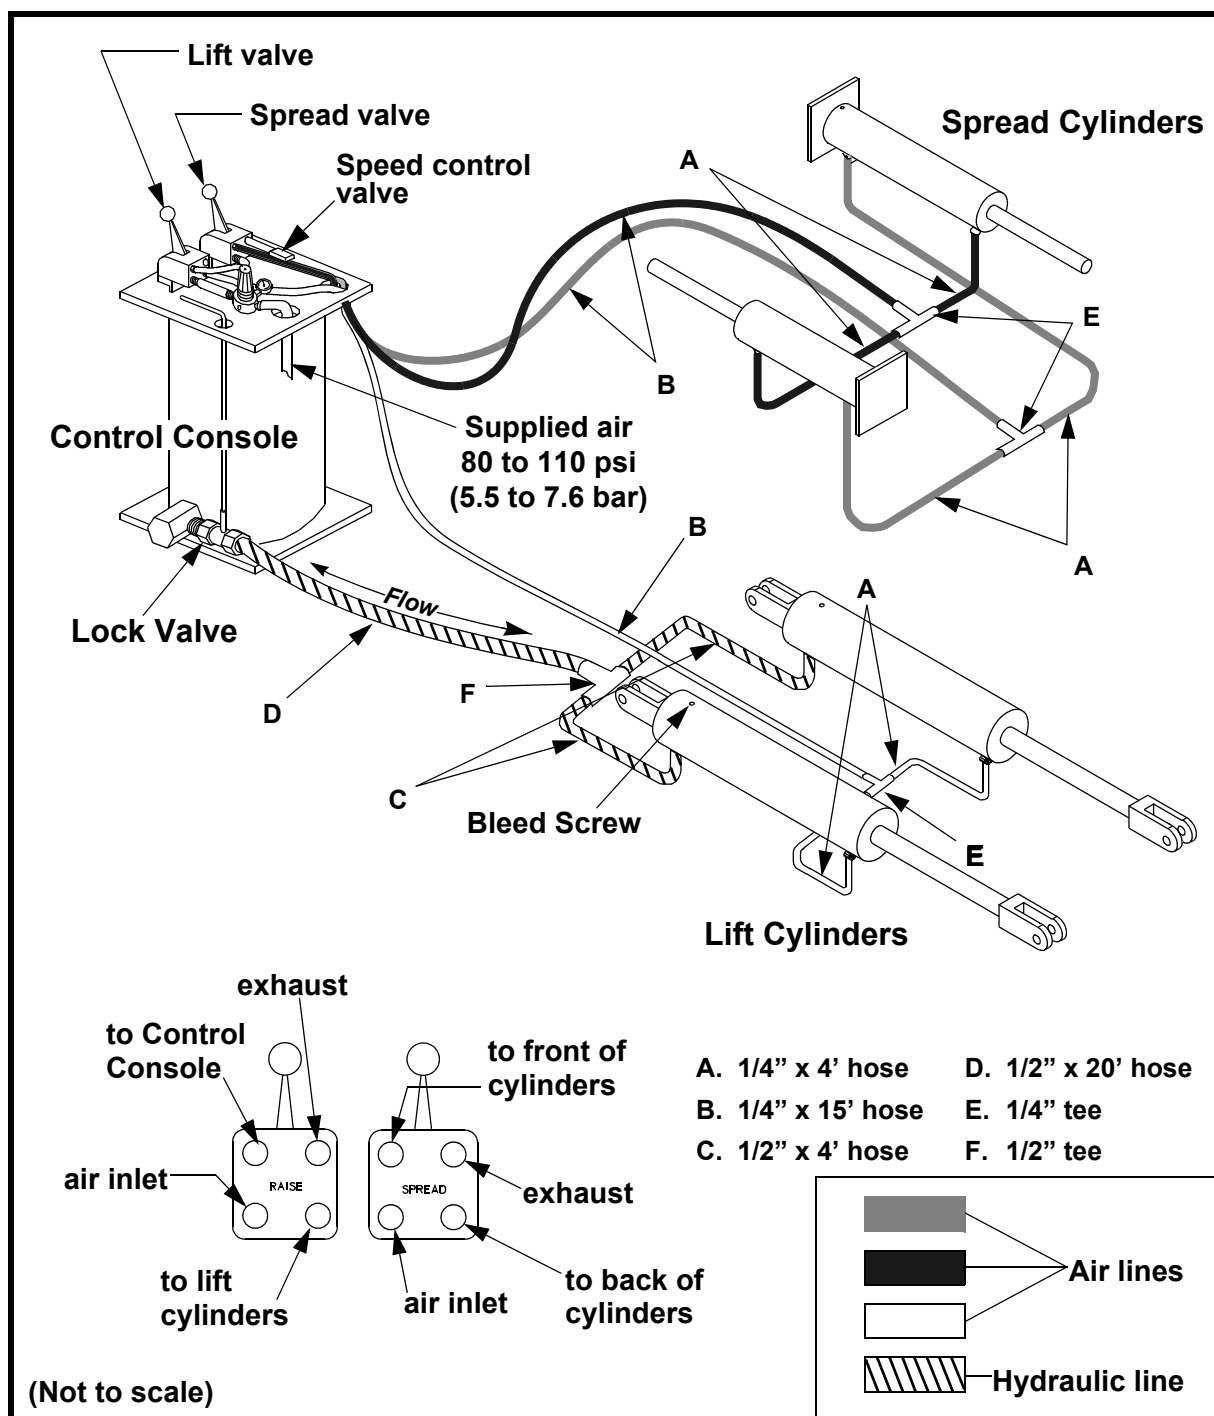

Figure 4. Hose Connections for Models DBL-18 and DBLG-18 GATX
4. Connect hoses to DBL-18 and DBLG-18 GATX spread cylinders, lift cylinders, and control console as shown in Figure 4. Route hoses *under* tracks. Make sure hoses are not pinched or kinked.
1. See Figure 4. Fill console tank with automatic transmission fluid through the 1/2-in. filler plug in top of tank. Replace plug.
1. See Figure 4. With all fittings and hoses in place, open lock valve and move lift valve to the UP position. (Unit will rise.)
1. See Figure 4. To raise unit, do the following:
2. See Figure 4. To lower unit, do the following: